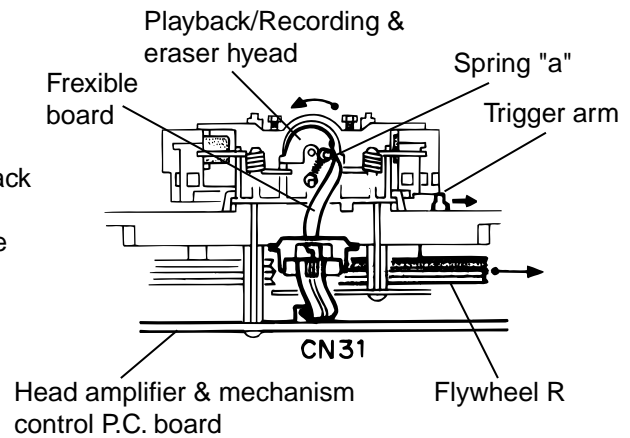
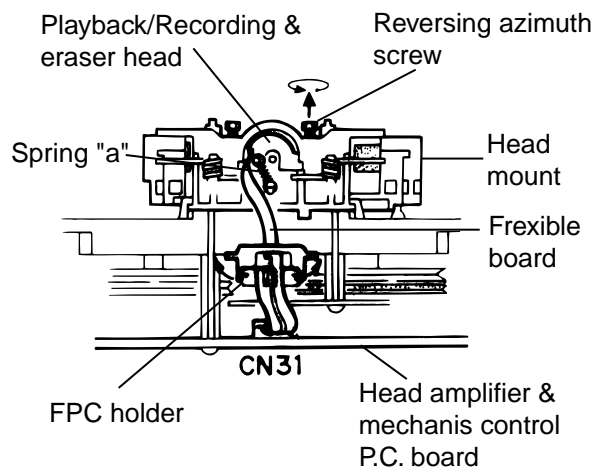

Fig. 2
Fig. 3
2. When the flywheel R is rotated in counterclockwise direction, the Playback/Recording & Eraser head will be turned in counterclockwise direction from the position in Fig. 2 to that in Fig. 3.
1. Reassemble the playback head from the front of the head mount to the position as shown in Fig. 3.
4. Attach the flexible P.C. board to the chassis base, and fix it with the FPC holder as shown in Fig. 3.